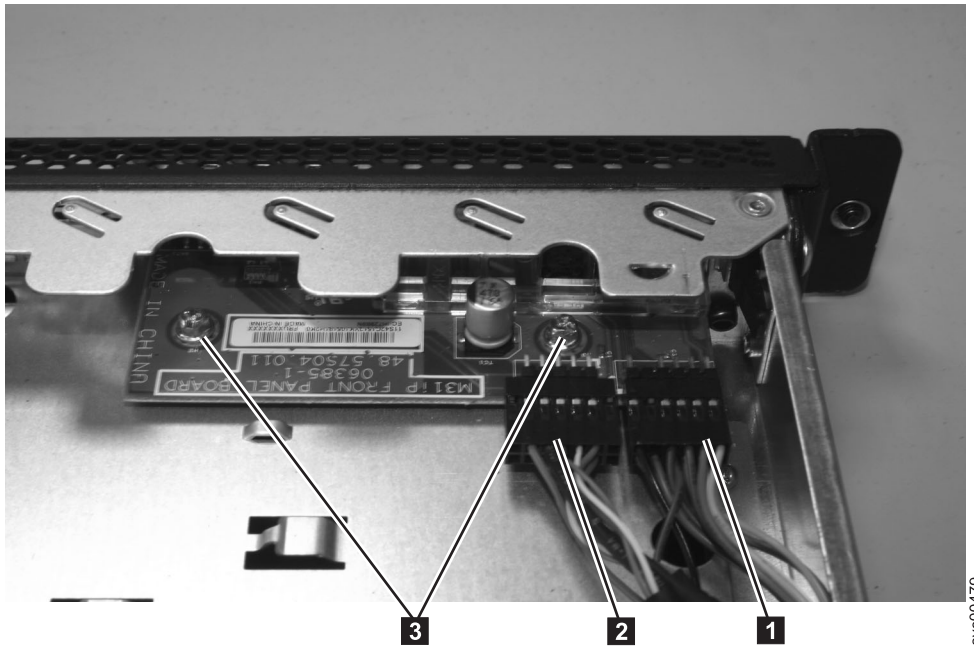

Figure 233. SAN Volume Controller 2145-8A4 operator-information panel
6. Disconnect the light-panel cable **1** and the USB cable **2** from the operator-information panel board shown in Figure 233.